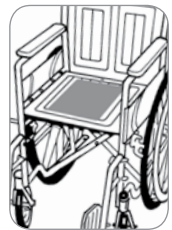

Fig. 28
2. Place sensor pad FLAT across width of seat (Fig. 28). Make sure sensor cord is either to the back or side of seat.